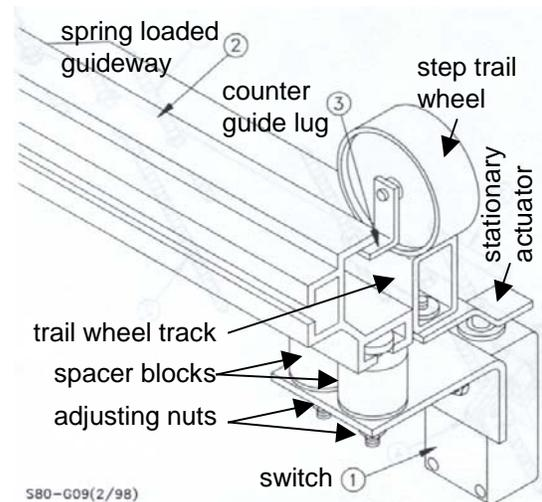

Figure 8-10i O&K Step Lift Monitor
35. What part in figure 8-10i will pull the guideway back in place when lifted?